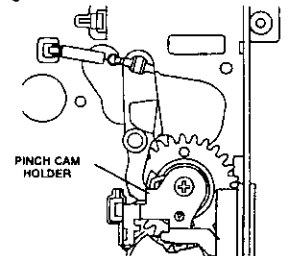

Fig. 2-12-4
- Install the PINCH CAM HOLDER on the position shown in Fig. 2-12-4.